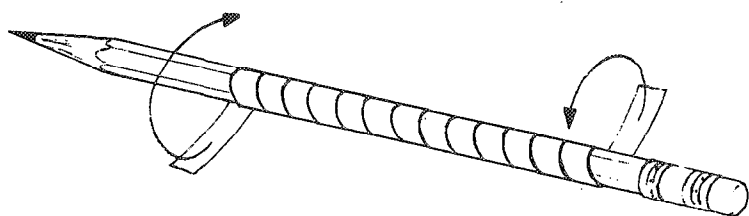

FIGURE 1
*"Allow me to elaborate — perhaps you can tell me where I've gone awry. For my model I take an ordinary pencil (pointing to the left) and wrap a strip of paper around it thus (Ed. note: See Figure 1):*
*"This leads me to three conclusions: (1) It is impossible to turn the string in the direction of the winding; (2) It is impossible not to turn the string in the direction of the winding; and (3) It makes no difference which direction you turn the string. Help!" — Norman Henry, Oakland, California*